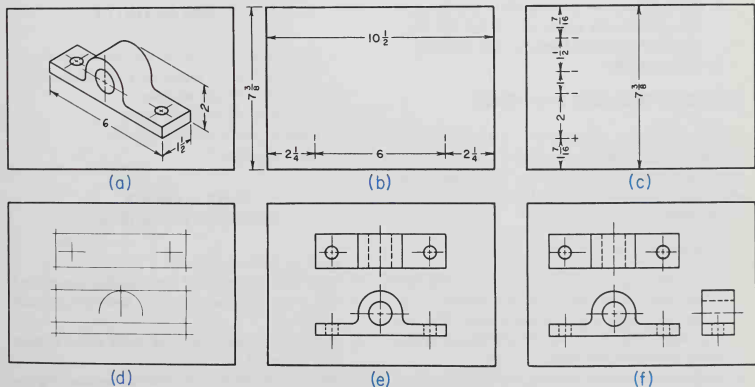

Fig. 3-9. Figuring the spacing for multiview drawings.
In Fig. 3-9 (a), a pictorial drawing of a bracket is shown. The working space of the plate is 10 1/2 in. wide by 7 3/8 in. high, Fig. 3-9 (b). To space the object horizontally, subtract the width of the object (6 in.) from the working-space (10 1/2 in.) and 4 1/2 in. remains (10 1/2 - 6 in. = 4 1/2 in.). Divide the 4 1/2 in. by 2 to get 2 1/4 in. for the spacing on each side of the object, Fig. 3-9 (b).
The vertical spacing is figured in a similar manner, but two views with spacing between these views are involved. Add the dimensions for the two views (2 + 1 1/2 in.) and the space between views (allowing at least 1 in., more space is necessary if several dimensions are to be placed between views). This totals 4 1/2 in. (2 in. + 1 in. + 1 1/2 in. = 4 1/2 in.). Subtract 4 1/2 in. from the working space (7 3/8 in.) and 2 7/8 in. remains. Divide this by 2 to get 1 7/16 in. for the spacing at the top and bottom of the plate, as shown in Fig. 3-9 (c).
Block in views lightly with construction lines, Fig. 3-9 (d). When you are certain of your layout, darken
arcs and circles first, and then darken all straight lines, Fig. 3-9 (e). Spacing for a three-view drawing is figured in the same manner, except that spacing between the front and right-side views must be provided, Fig. 3-9 (f). Always figure your spacing on scrap paper before starting the layout of an object.
2. Make a three-view drawing of the pen holder base. Follow the suggestions in Fig. 3-9 for layout of sheet and blocking in of the views.